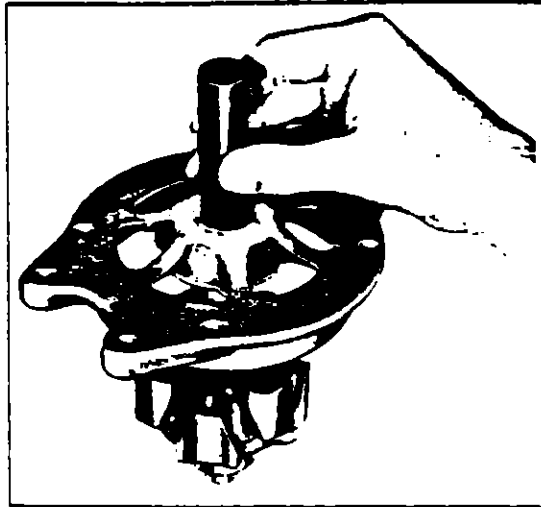

FIGURE 9-27i. INSTALLATION OF BEARING
a. Press the ball bearing into the drive end head using a flat block approximately two inch square so that the pressure is exerted on the outer race of the bearing. Install the retainer plate. With the snap ring and retainer cup in place on the rotor shaft, use a tool that fits over the shaft and against the inner bearing race, and press until the inner bearing race is against the snap ring retainer cup. (Refer to Figure 9-27i.)